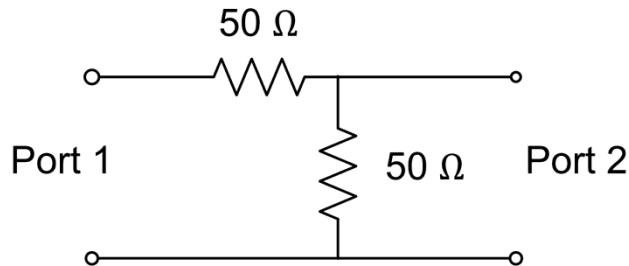

Figure 2.1
2. (a) Calculate the S-parameters for the circuit shown in Figure 2.1. Assume a reference impedance of 50 Ω.